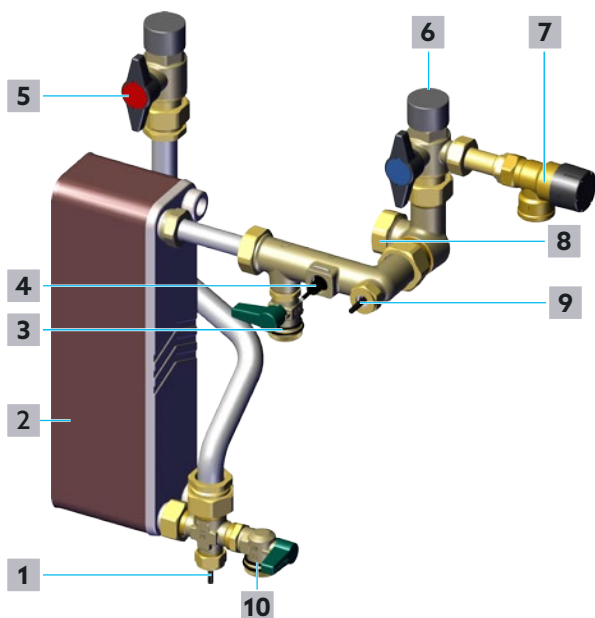

Fig. 31: Potable water circuit
- 2 Slowly close the shutoff ball valve for potable water (hot) (position 5 in Fig. 31 on page 49 and position 10 in Fig. 2 on page 12).
- 3 Slowly close the shutoff ball valve for potable water (cold) (position 6 in Fig. 31 on page 49 and position 11 in Fig. 2 on page 12).
- 4 Unscrew the cap of the fill and drain ball valve for potable water (hot) (position 10 in Fig. 31 on page 49 and position 16 in Fig. 2 on page 12).
- 5 Connect the drain hose for potable water to the fill and drain ball valve for potable water (hot) (position 10 in Fig. 31 on page 49 and position 16 in Fig. 2 on page 12).
- 6 Open the fill and drain ball valve for potable water (hot) (position 10 in Fig. 31 on page 49 and position 16 in Fig. 2 on page 12).
- 17 Close the fill and drain ball valve for potable water (hot) (position 10 in Fig. 31 on page 49 and position 16 in Fig. 2 on page 12).
- 5 Close the fill and drain ball valve for potable water (hot) (position 10 in Fig. 31 on page 49 and position 16 in Fig. 2 on page 12).